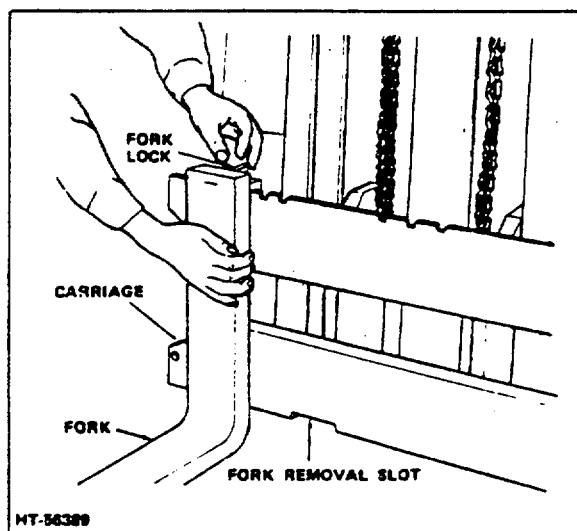

Figure 6. Fork Adjustment and Removal
A fork lock (Fig 6) , is installed in the top of each of the hook type forks to hold it in position in one of the notches along the top bar of the carriage.' To change the fork location, pull up on the lock and move fork to the left or right. Allow fork lock to seat in the notch nearest to location chosen.
2. Release the fork lock pin and slide fork to a position over the slot in the lower carriage bar (Fig 6).